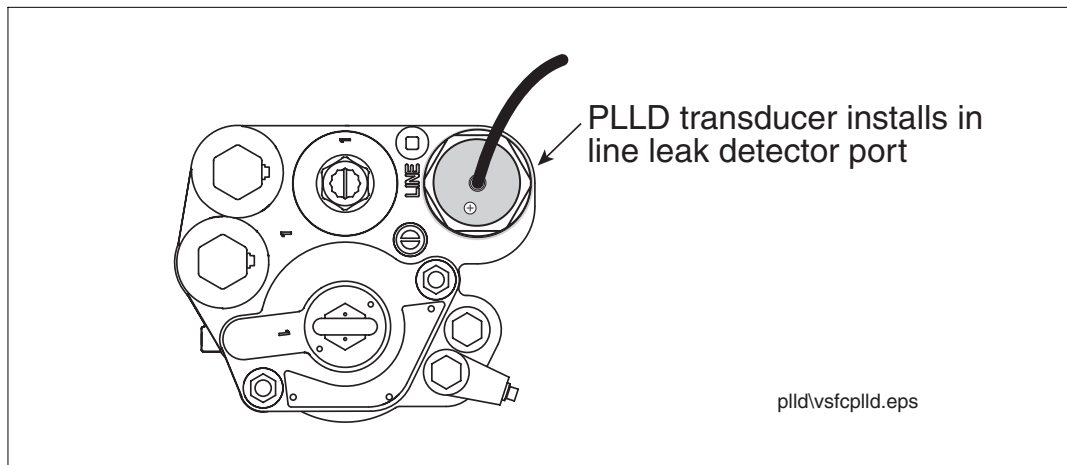

Figure 10. Locating line leak detector port in Red Jacket VSFC pump for PLLD transducer
3. If the pump does not have a Stage II vapor recovery device installed in the pressurized piping, remove the 2" NPT plug from line leak detector port. Install the PLLD transducer into the 2" NPT port (see Figure 10).